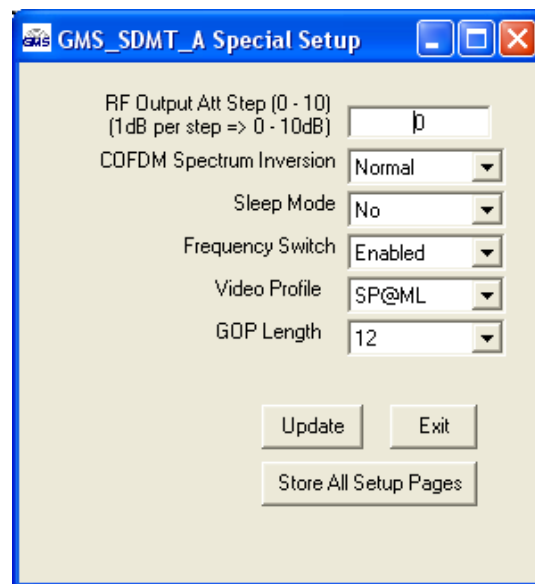

Figure 8 – Others Menu Screen
- **Others** (see figure 8)- This menu displays the following: